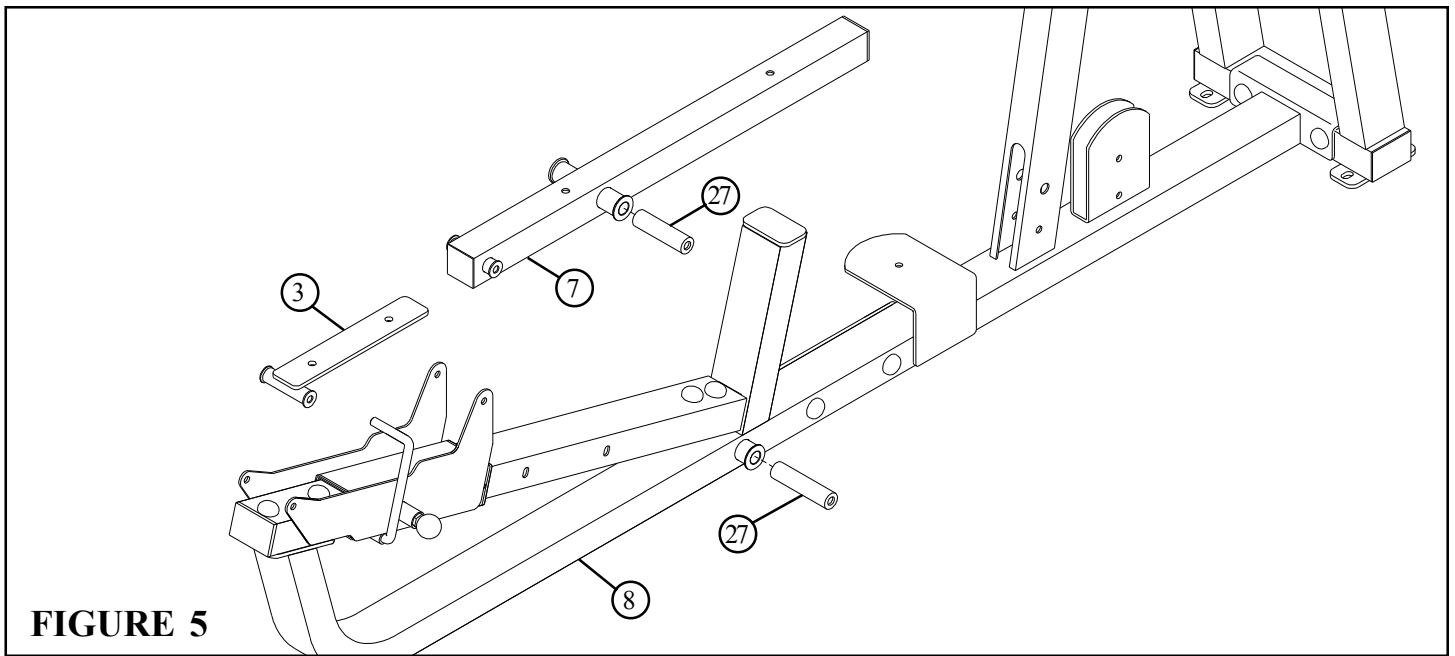

FIGURE 5
- Insert one 5-1/2" PIVOT SHAFT (27) into the PRESS FRAME (8) and one 5-1/2" PIVOT SHAFT (27) into the BACK PAD SUPPORT (7) as shown in FIGURE 5.